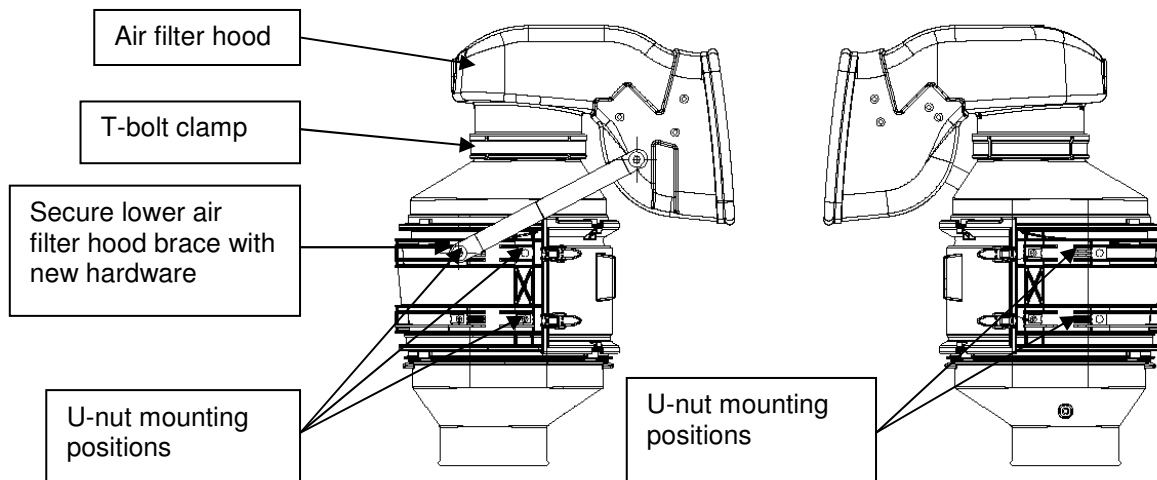

Figure 13: Air Filter Housing Preparation
21. Insert the U-nuts p/n 362262 into the appropriate housing mounting pads (typical 5 places) on new air filter housing assembly p/n 477921 or cleaned existing housing assembly depending if the housing was damaged as per Step 15. See Figure 13.
22. Position the T-bolt clamp and hood removed in Step 13 onto the housing assembly. For proper clamp seating make sure the silicone reducer hood is pushed down the entire length of the housing flange. Torque T-bolt clamp to 40 in*lbs. Using a new 1/4-UNC x 3/4" long bolt p/n 10B04012, washer p/n 060771 and loctite p/n 8110442 to secure the lower hood brace. Torque bolt to 95-110 in*lbs. See Figure 13.